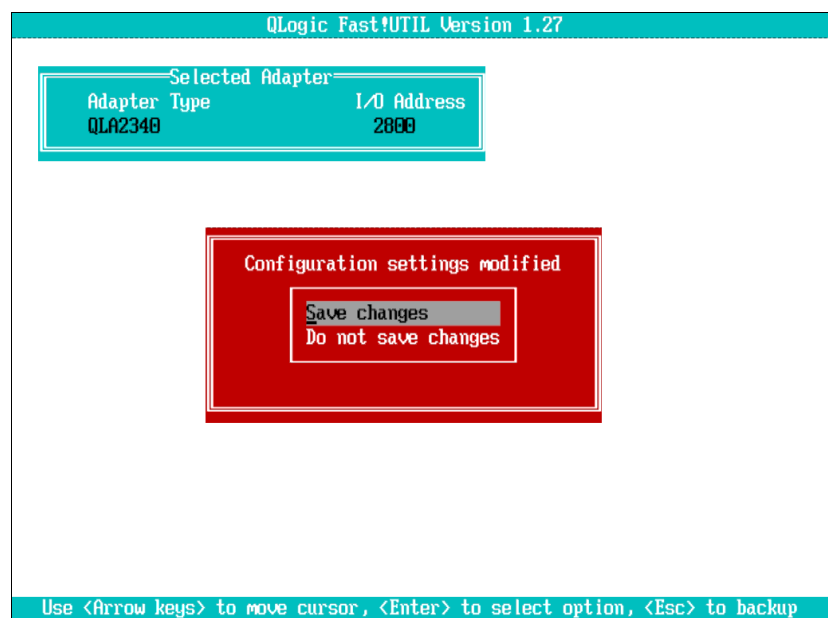

Figure 1-17 Save changes
- After all the controllers are added, press Esc to exit the Configuration Setting panel. Press Esc again to get the **Save changes** option (see Figure 1-17).